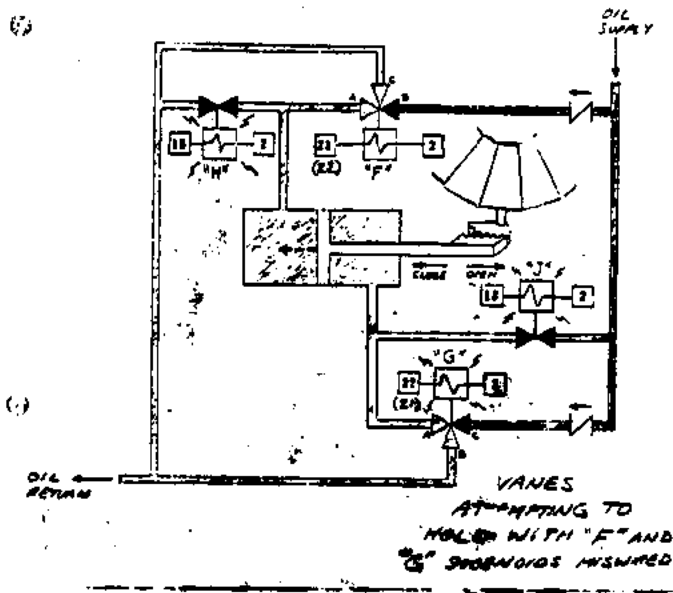

FIGURE 2
1. INCORRECT WIRING - The Form "F" valve should be wired to terminal 21 in the junction panel in the control console. The Form "G" valve should not disturb the normal operation of the vanes. This is because when the controls call for opening of the vanes, both valves are energized and when they call for closing of the vanes, both valves are de-energized. If these are reversed by incorrect wiring, (See Figure 2, Page 5), both valves would exhaust from the hydraulic vane control motor and there would be no oil pressure on either side of the piston. The gas forces flowing over the prewhirl vanes would then take over and push the piston toward the closed position.